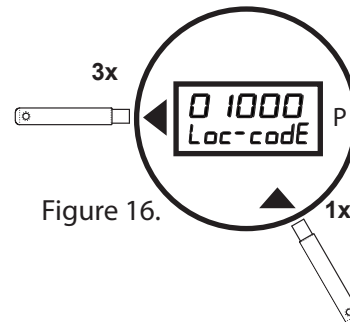

Figure 16.
- Pass the wand on the ◀ three times. The second digit from the left will flash (Figure 16).
- Pass the wand on the ▲ once. The display will increment from 0 to 1 (Figure 16).